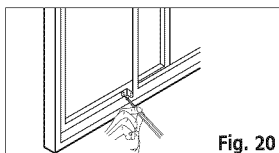

Fig. 20
7. To secure the sliding sash in place, attach right angle sash lock with 12.7mm ( 1/2" ) screw as shown.(Fig.20)